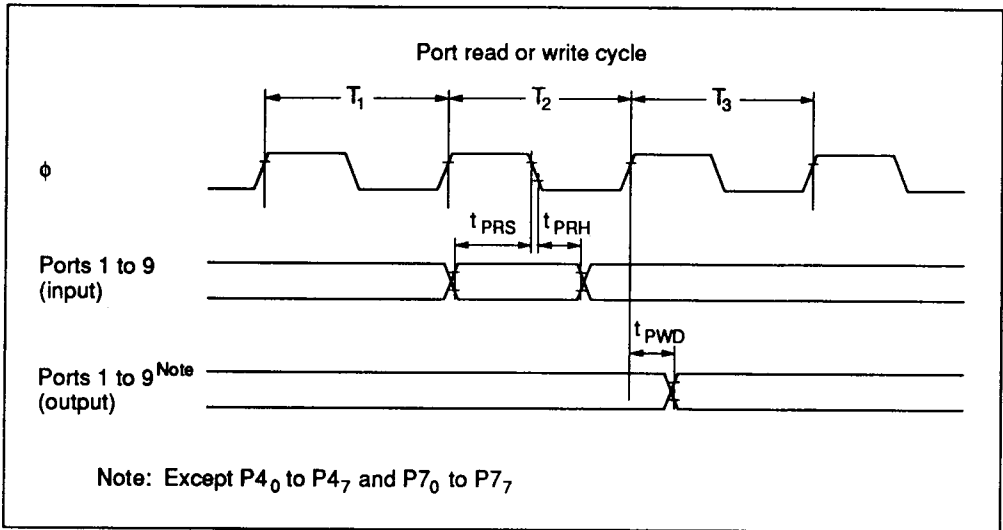

Figure 21-7 I/O Port Input/Output Timing
21.3.3 I/O Port Timing	Figure 21-7